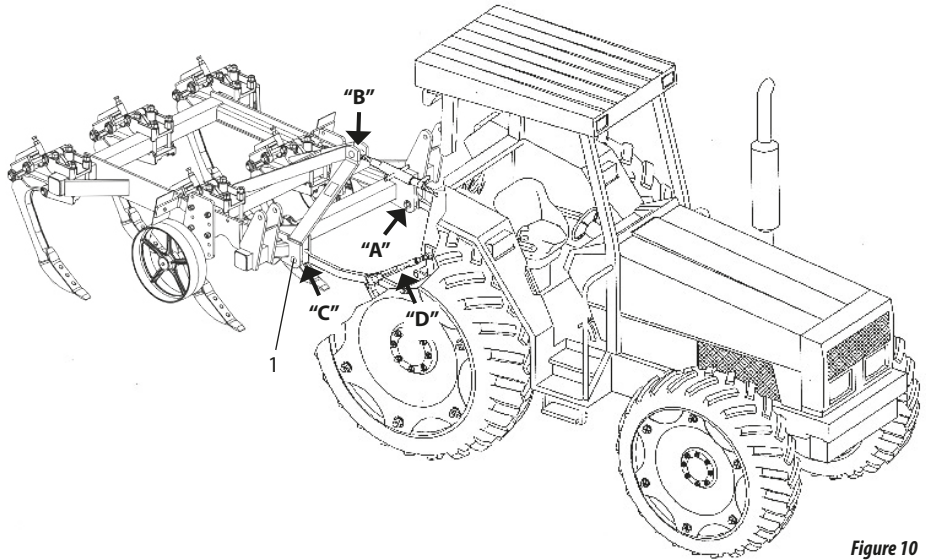

Figure 10
- 07 - Hitch the bottom left arm with the pin (1) figure 10 into the support "A" of the subsoiler.